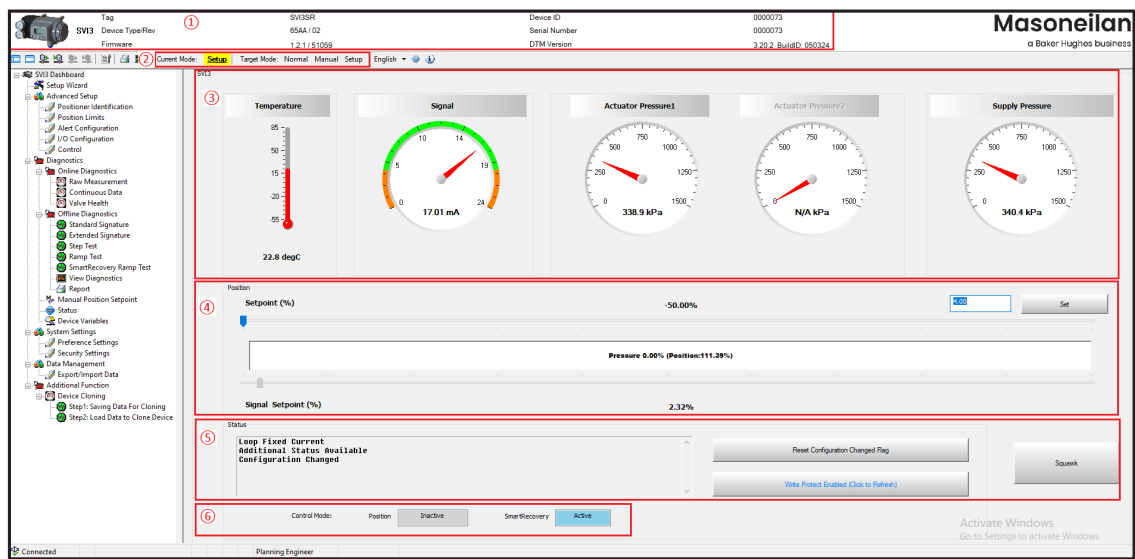

Figure 33 - SVI3 Dashboard Screen
- *Status* - Displays health indicators. When there is a fault code from the SVI3, *Additional Status Available* appears. The fault codes also appear on the *Status* screen (Section 9.13 “Diagnostics: Status: Faults”.) The status block also contains other status codes returned by HART. These include *Configuration Changed*, *Device malfunction*, and *Variable out of limits*. NE 107 status is displayed on Status Page and an Icon indicator on Status of Navigation. Refer Figure 33.